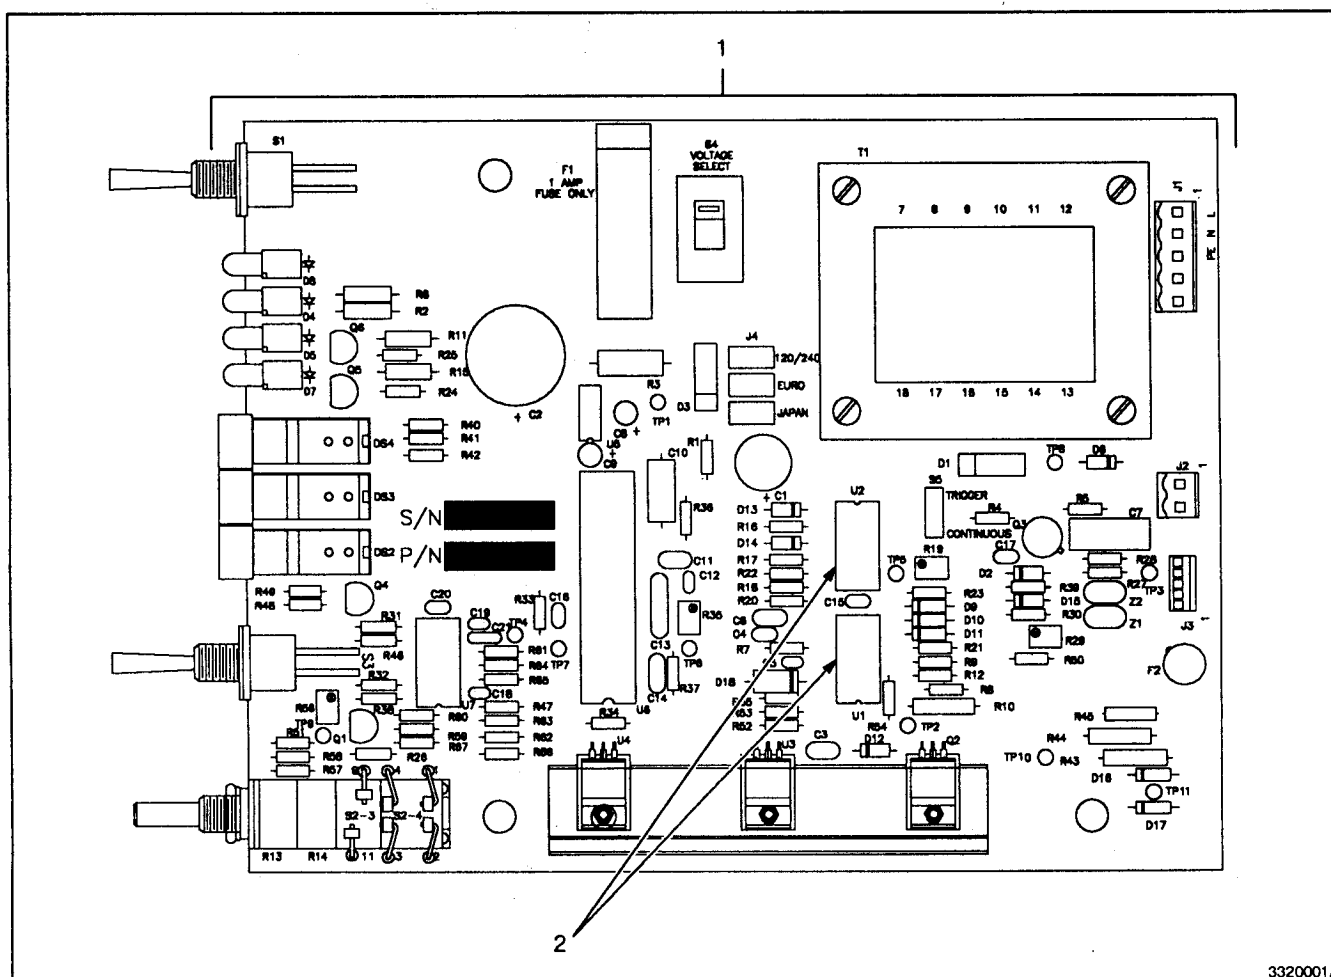

Fig. 1 Versa-Spray II circuit board
See Figure 1. Figure 1 shows the placement of the IC chips (2) on a Versa-Spray II Controller circuit board (1). If you have a Versa-Spray Controller, Figure 1 will still provide an accurate reference.
1. Position the circuit board so that you can read the silk-screening. The ICs are located below the transformer just to the right of the center of the board, as shown in Figure 1.